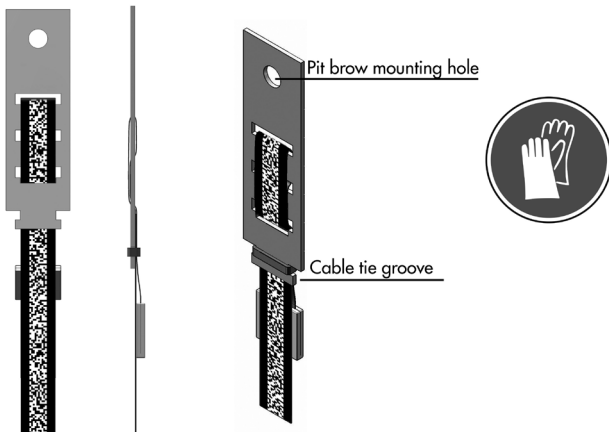

Figure 24: Top tension lock
2. Straighten the APS code tape. Fasten it with a cable tie around the tension lock → Figure 24.